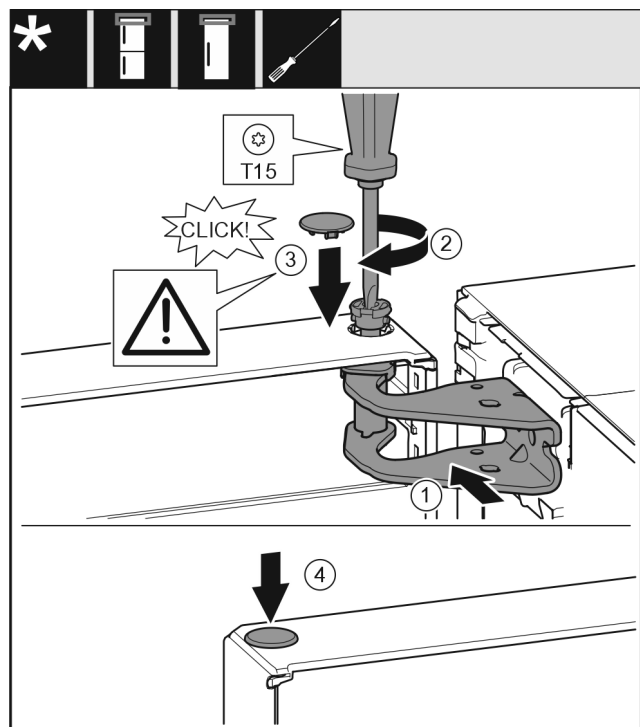

Fig. 16
- Align the top of the door with opening in the bearing bracket. Fig. 16 (1)
- Insert the bolt and tighten with a T15 screwdriver. Fig. 16 (2)
- ▶ Fit the protective cover to protect the door: Insert the protective cover and check that it is flush to the door. If not, insert the bolt fully. *Fig. 16 (3)*
- ▶ Insert the plugs. *Fig. 16 (4)*